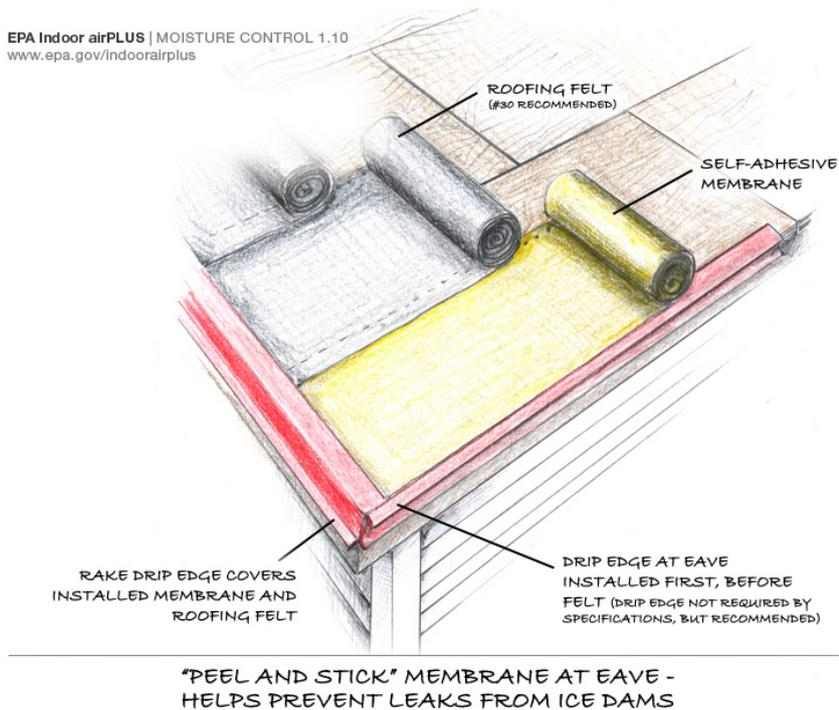

Figure 2 - Install the self-sealing bituminous membrane over the eave drip edge, then install roofing underlayment, then rake edge.
6. Install the underlayment directly over the membrane. Install rake drip edge (See Figure 2). Continue with roof construction.